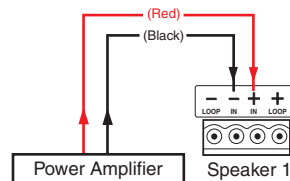

Figure 36. Wiring a Single Speaker
- **Wiring a Single Speaker:** Connect the wires to the captive screw connectors of the speaker as shown in figure 36. Be sure to tighten the screws.